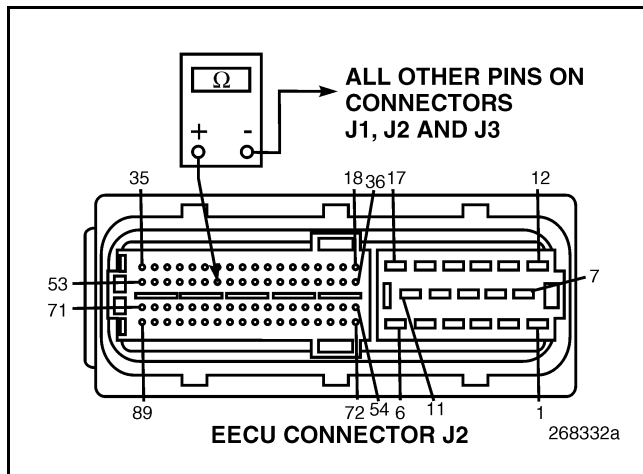

Figure 334
4. Check for continuity between EECU harness connector J2 pin 47 (signal line) and all other pins in EECU harness connectors J1, J2, and J3 (see Figure 334).